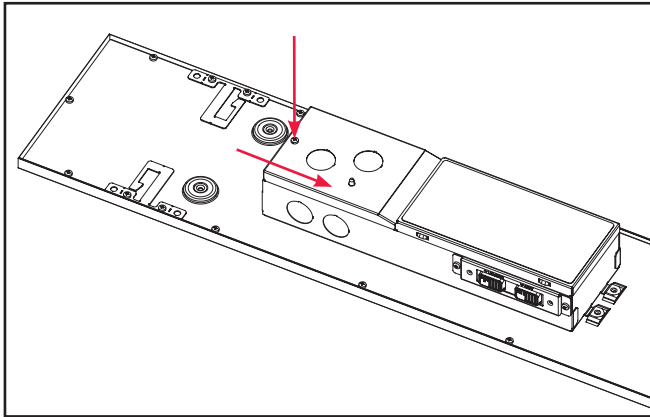

Figure 4.
9. Tuck all wires and wire nuts into the fixture junction box, replace electrical access plate, and fasten screw. (Figure 4.)